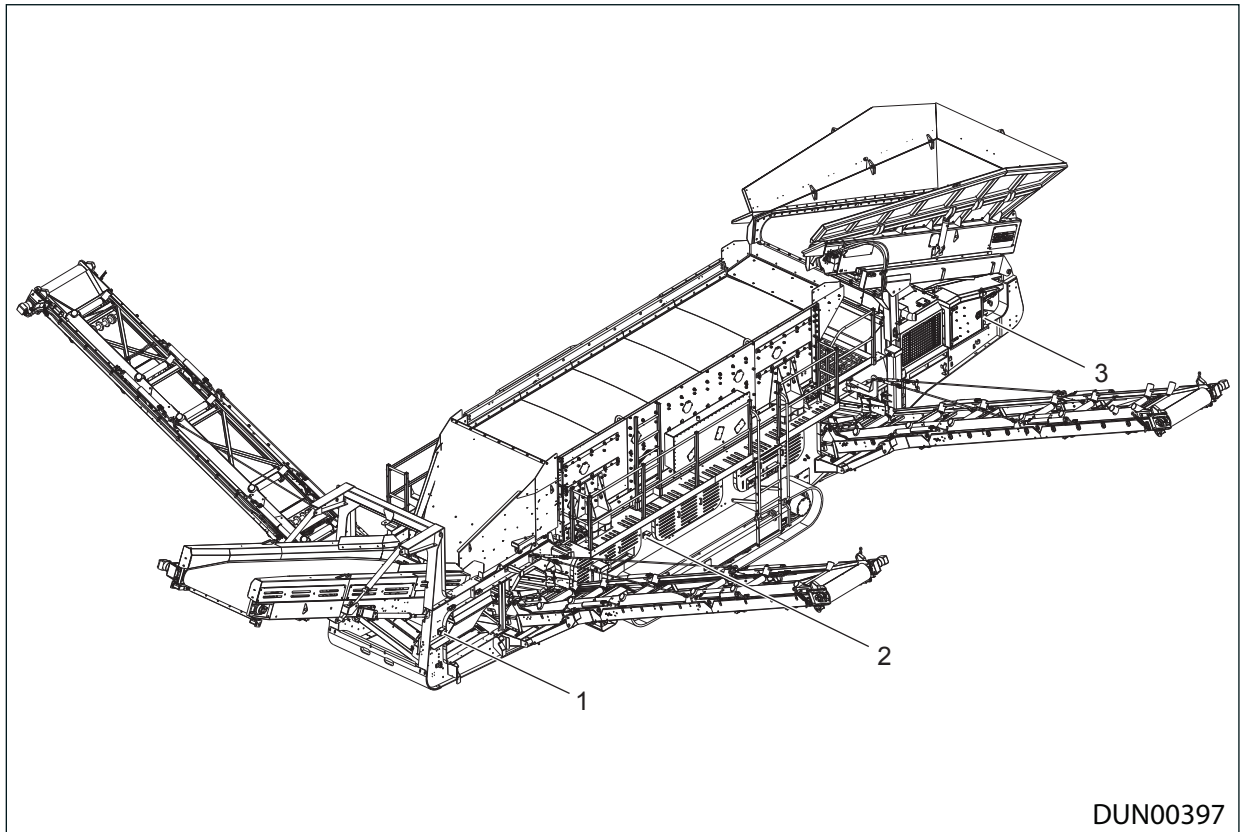

Figure 8.3 - Emergency Stop Locations LHS and RHS
1. Press any emergency stop to stop the engine and machine, Ref: Figure 8.3.